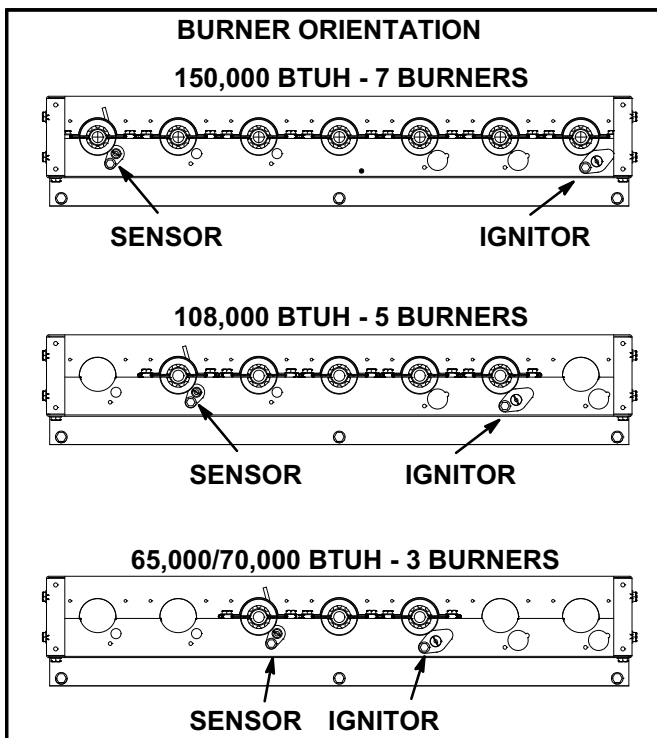

FIGURE 31
- 6- Replace burners and screws securing burner. See figure 31.